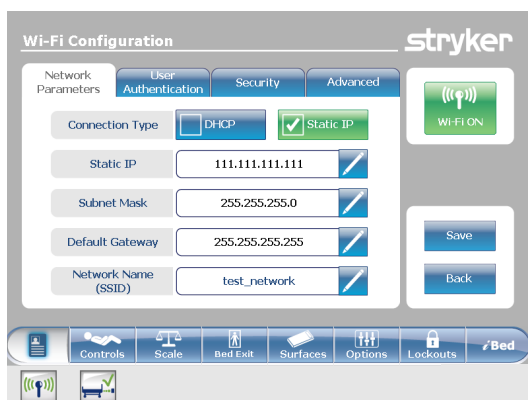

Figure 30: Network Parameters
3. Tap the appropriate tab, and then tap the pencil icon to configure the network settings (Figure 30 - Figure 33).
7. Turn the battery switch to the **OFF (O)** position.
9. Turn the battery switch to the **ON (I)** position.